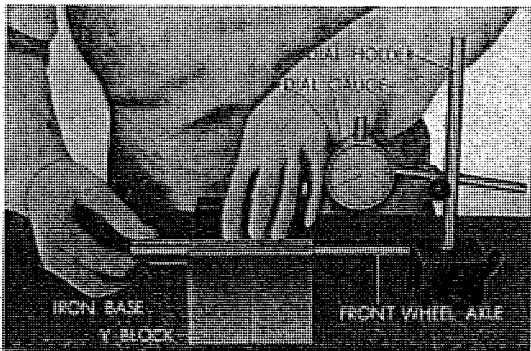

Fig. 4.87 Measurement of rear wheel axle bend
1. Measurement of deflection and eccentricity of the rim. (Refer to Fig. 4.87)
2. Measurement of the outside diameter bend of the rear wheel axle. (Refer to Fig. 4.87)